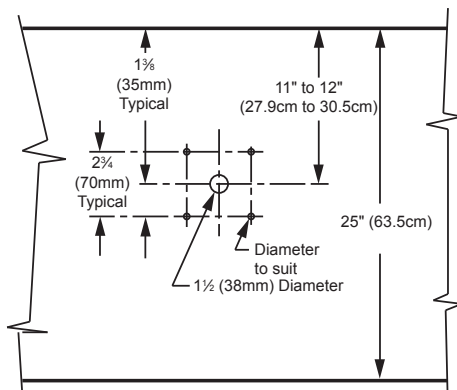

Figure 9
3. If you are installing your keg refrigerator under a counter you will need to drill 5 holes in the counter top to mount the tower. The first hole is a 1¹/₂" diameter hole located at the center of the tower for the beer line, locate approximately 11 to 12 inches from the back wall (based on a standard counter top depth of 25"). Next drill the 4 tower mounting holes per the dimensions in Figure 9. The hole diameter is dependent on the counter top material and if screw anchors are required. The screws supplied are in the literature pack and are a #10 x 1" type AB stainless steel screw. After the holes are drilled and the keg refrigerator is in place under the counter top feed the beer line through the tower gasket, the 1¹/₂" hole in the counter top and the hole in the top of the keg refrigerator. Mount the tower to the counter top with the 4 screws provided.